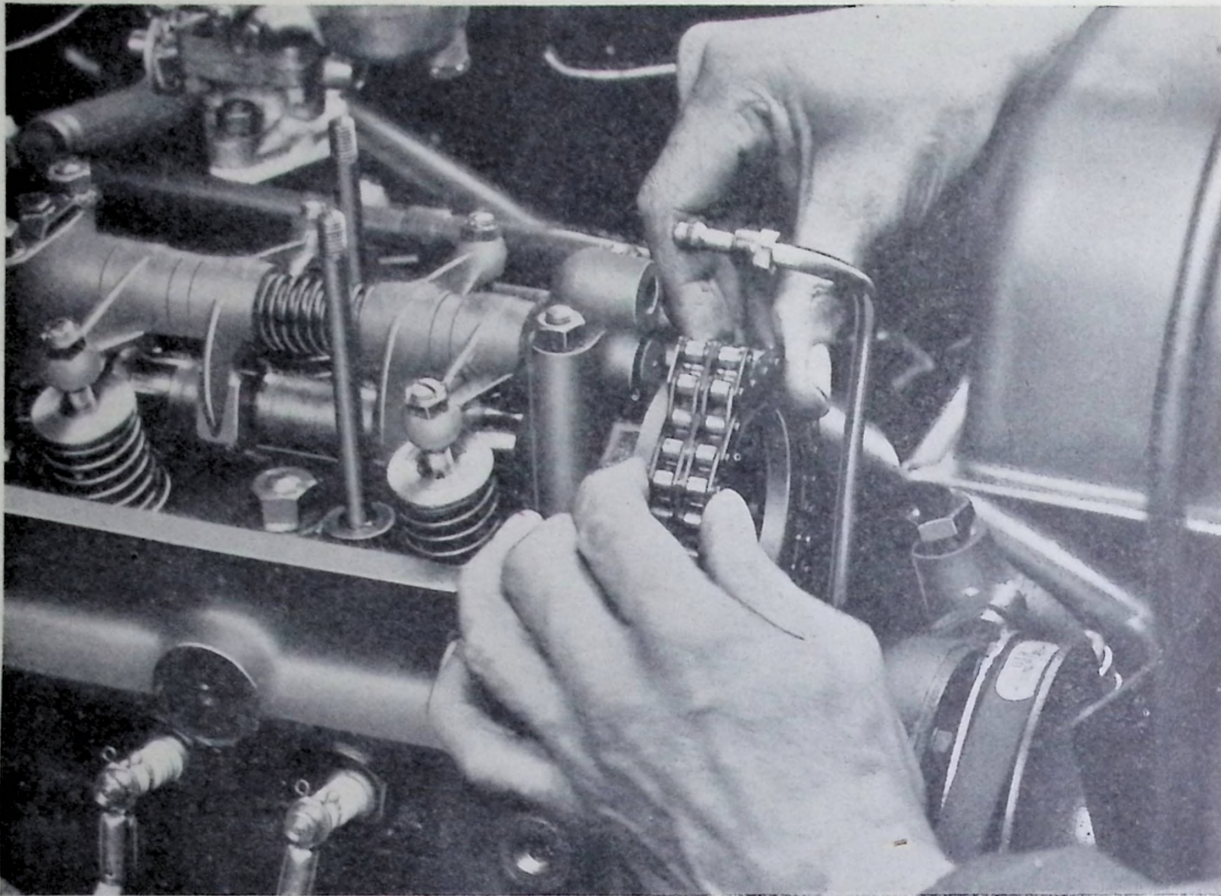

Fig. 6. Observe Method of moving Chain over Wheel one tooth at a time.
block, taking care to see that their joint faces and those of the gasket are clean ; set the camshaft so that the mark on the rim of its driving flange is in line with the machined face of the pad at the butt face of No. 1 bearing cap of the camshaft. Offer the wheel and chain assembly to the camshaft and if the holes in the wheel will not register with the studs on the driving flange, lower the chain wheel sufficiently to work the chain over the wheel a tooth at a time until engagement is effected without altering the positions of the camshaft or crankshaft, and with the right hand length of the chain in tension, and the chain tensioner also in engagement. See Fig. 6. Check the valve and ignition timings as described on Pages BZ15 and BZ16 before proceeding any further with the assembly, which from here is in the reverse order to dismantling.
- (1) Set the rocker clearances of the inlet valves to .004" and of the exhaust valves to .006".
- (2) Position the camshaft with the inlet valve of No. 1 Cylinder just opening, see Page BZ15.
- (3) Position the flywheel with the marks $1/4$ at top centre and the electrode of the distributor rotor pointing to the segment in the cap connected to No. 4 sparking plug.
- (4) Place the head in position on the cylinder block, taking the usual precautions to see that the joint faces are clean, and endeavour to engage the chain wheel with the camshaft. If it is not possible to register the holes in the wheel with the pegs on the shaft, lower the chain wheel sufficiently to work the chain over the wheel a tooth at a time, until engagement is possible without altering the positions of the camshaft or crankshaft, and with the right hand length of the chain in tension and the chain tensioner in engagement. (see Fig. 6, Page BZ8). Check the valve and ignition timing as described on Pages BZ15 and BZ16 before proceeding any further with assembly, which from here is in the reverse order to dismantling.